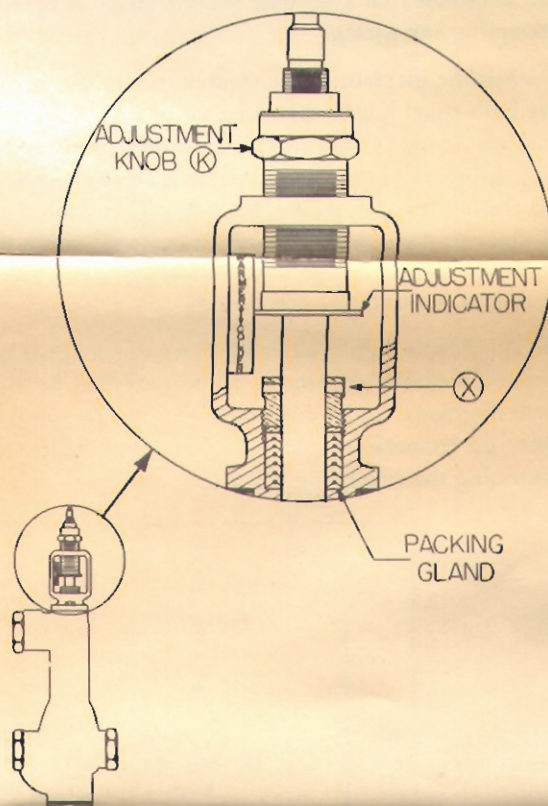

Fig. 8. Adjustment of Sarcotherm.
Final adjustment after installation should not be made on the Sarcotherm control valve before the functioning of the heating system has been observed over an extended period with various outside temperatures. This is to give sufficient time for the heat to well saturate the structure. If it is found that inside room temperatures are consistently too low or too high, it is possible to raise or lower the temperature of the blended water to the system by turning the adjustment nut K on top of the Sarcotherm valve towards "Warmer" or "Colder" (see Fig. 8). Follow the procedure below:
3. To raise water temperature turn nut K, Fig. 8, one
Here again, the adjustment should be made in small steps rather than with one setting. If it is found that the dial is at either extreme end after setting, proceed to reset the control manually by means of adjusting the nut K (Fig. 8) and bring pointer back to standard setting at No. 1. After completion of adjustment, set thermostat to its normal position.
At times a small amount of water might leak through the packing gland. This can be stopped by tightening the packing gland. Insert a piece of $\frac{3}{16}$ " drill rod at X, Fig. 8, and slowly turn clockwise. **DO NOT TIGHTEN TOO MUCH TO AVOID DISINTEGRATION OF PACKING GLAND.**